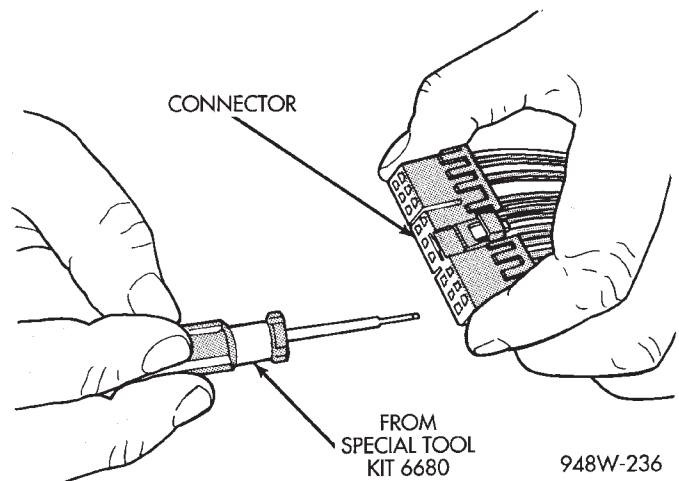

Fig. 20 Terminal Removal
(4) Position the connector locking finger away from the terminal using the proper pick from special tool kit 6680. Pull on the wire to remove the terminal from the connector (Fig. 20) (Fig. 21).